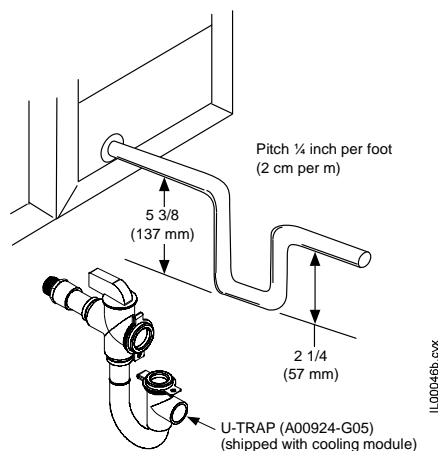

Figure 20. Typical Condensate Trap
- Trap the condensate line near the unit using U-trap A00924-G05 as shown in Figure 20.